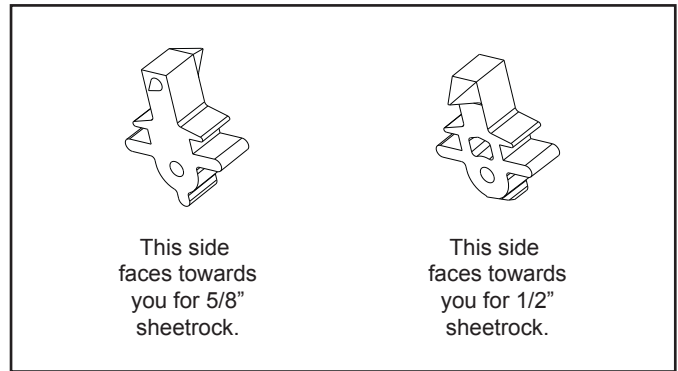

Figure 25. Cleat Orientation
5. Depending on what size sheet rock (16mm or 13mm), determine which side of the cleat is to be facing you (see Figure 25).